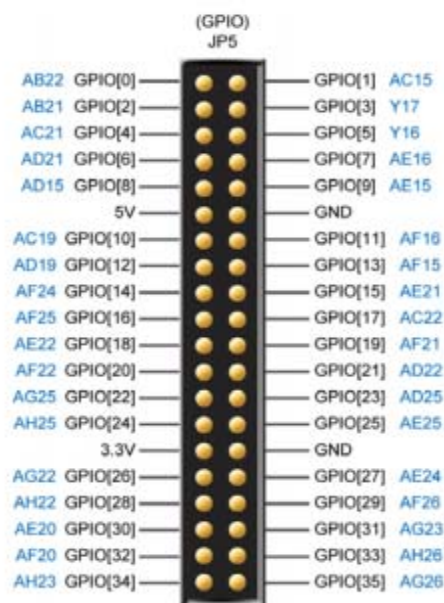

Figure 2: GPIO 40-pin assignments [1,46]
- II-2. *Manual control* - by deriving CCLK from a push-button and displaying the flip-flops' outputs on LEDs as shown below (block diagram of Figure 2).